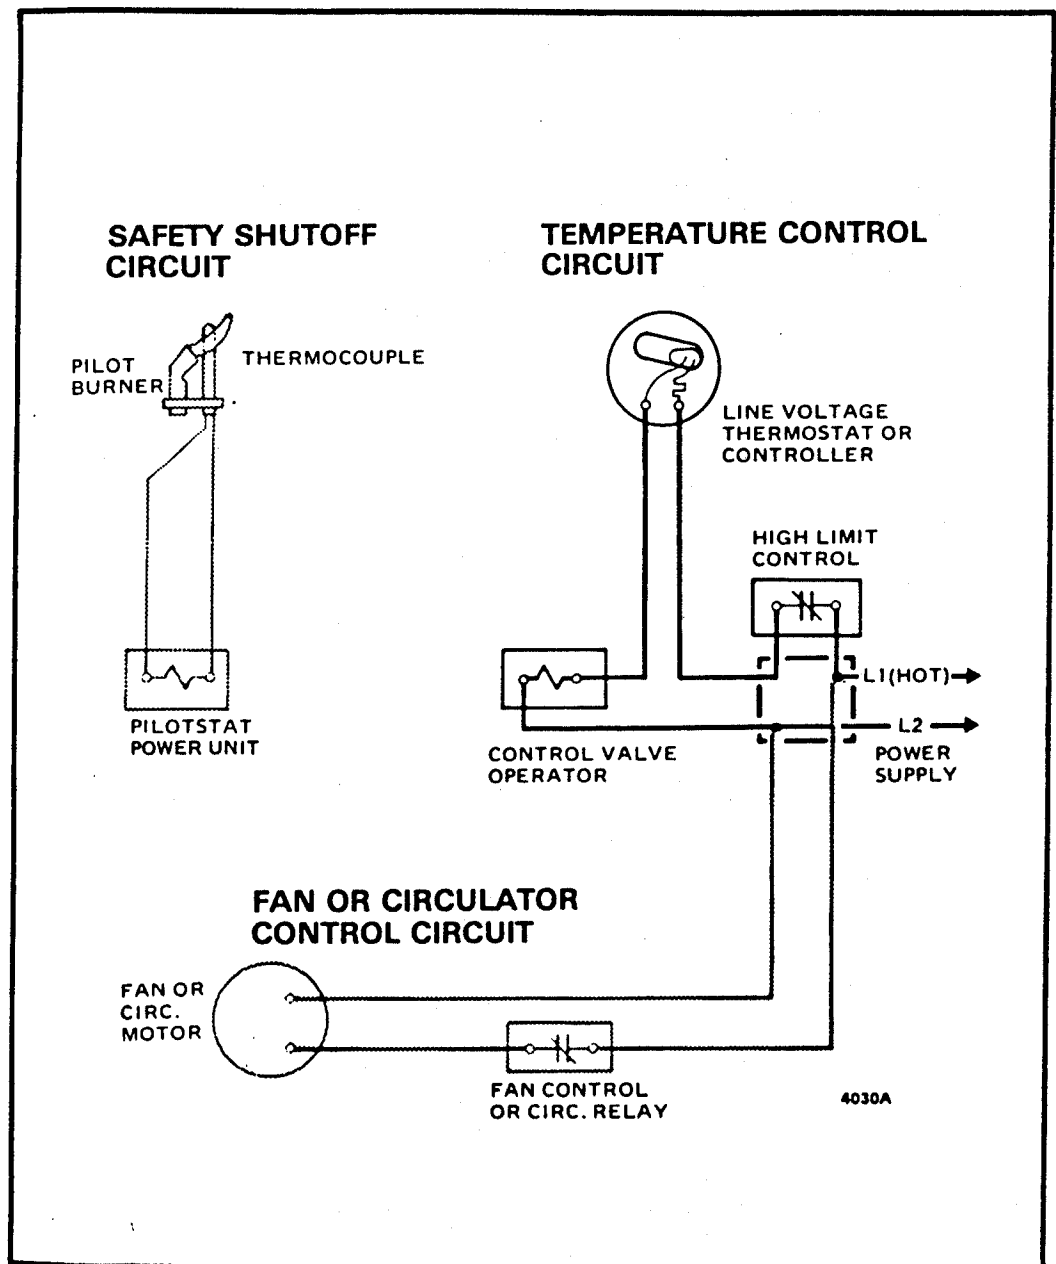

Fig. 67—Typical line voltage temperature control circuit.
2. If the main burner does not light, connect a voltmeter, or the W720 Systems Tester, between the line voltage supply leads in the junction box (Fig. 67)—